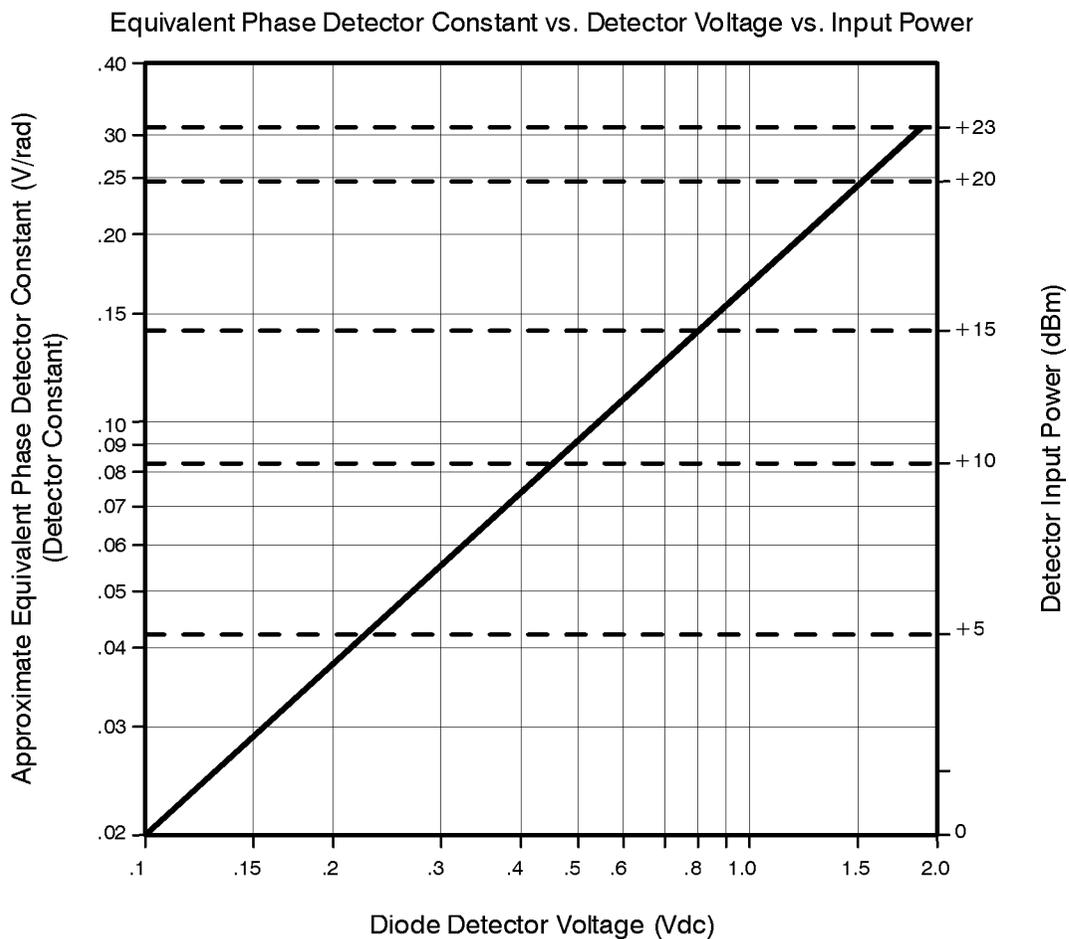

Figure 12-8 AM Detector Sensitivity Graph
3. Measure the monitor output voltage on the AM detector with an oscilloscope or voltmeter. Locate the diode detector's dc voltage along the bottom of the AM sensitivity graph (Figure 12-8 on page 12-9). Moving up to the diagonal calibration line and over, the equivalent phase detector constant can then be read from the left side of the graph. The measured data will be plotted as single-sideband AM noise in dBc/Hz.